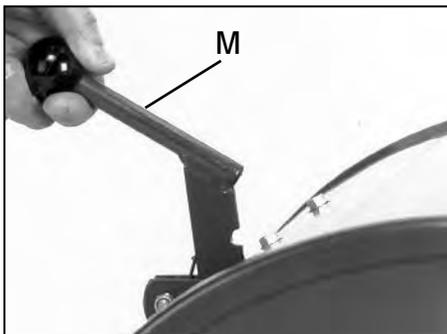

Figure 2-10: Put lever in second notch.
2. Pull the Depth Regulator Lever (M, Figure 2-10) straight back and then slide it to the second notch from the top. If the lever does not move freely, lift the tine hood flap and look for a plastic tie securing the lever in place. Cut and remove the tie.
1. With the unit on level ground, pull the Depth Regulator Lever (M, Figure 2-10) back and then move it up or down as needed until the engine is level.